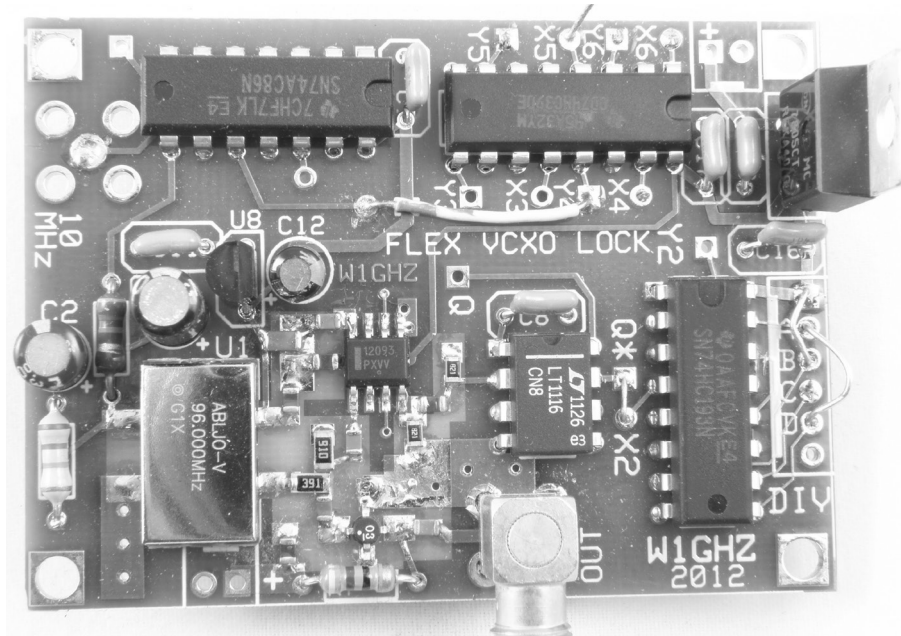
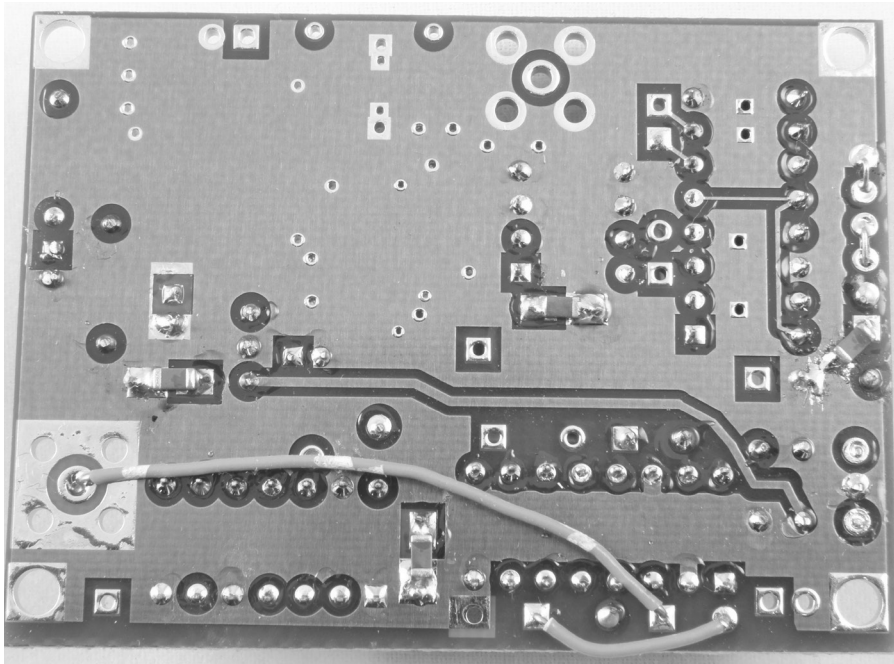

Figure 4 — 96 MHz VCXO board
Figure 5 — Bottom side of 96 MHz VCXO board
**96 MHz** — Another very useful frequency is 96 MHz, which is multiplied to 1152 MHz for the popular LO for 1296, with harmonics providing markers on many microwave bands. On the board shown in Figure 4, 96 MHz is divided by 8 in the MC12093 prescaler chip to 12 MHz. Then we must divide by 12 to 1 MHz, and divide the 10 MHz reference by 10 to compare at 1 MHz. I tried dividing by 12 directly in the 74HC193 chip, but the output was very asymmetric, with only a narrow pulse — this would not work well with the XOR comparator. Instead, the 74HC193 is wired to divide by six, followed by a divide by two in the 74HC390 chip — a divide-by-two always generates a square wave output. Other sections of the 74CH390 divide the 10 MHz reference by five, then two, to provide a square wave as well. This board also locks right up; the output has small spurs 1 MHz on each side of the main output.
The divisor of the 74HC193 chip, U5, is programmed by the ABCD jumpers on the right side of the board with the binary version of the divisor. For instance, a divisor of 12 = 1100 binary, so jumpers A and B are wired HIGH, to +5 V, and jumpers C and D are wired LOW, to ground. The board in Figure 4 is wired for a divisor of 6 = 0110 binary.
The bottom of the board, shown in Figure 5, has the wiring connections to divide the 10 MHz reference by 10 to 1 MHz. The input for the 10 MHz reference is at location X5.
The 1  $\mu$ F chip capacitors, C18 thru C22, reduce the switching noise and resultant spurious signals in the versions with a 1 MHz comparison frequency, like 96 MHz. C18 can be seen in Figure 4, attached to the PC trace between U8 and the VCXO; the green solder mask must be scraped off the trace before it can be soldered. C19-22 are on the back side of the board, shown in Figure 5.